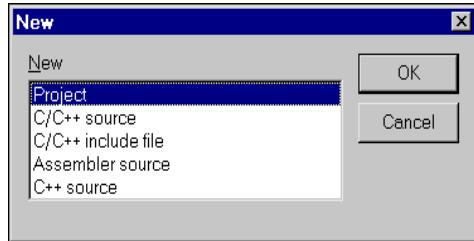

Figure 2-1 New dialog
1. Select **New** from the **File** menu or click the **New** button. The New dialog is displayed (Figure 2-1 on page 2-6).